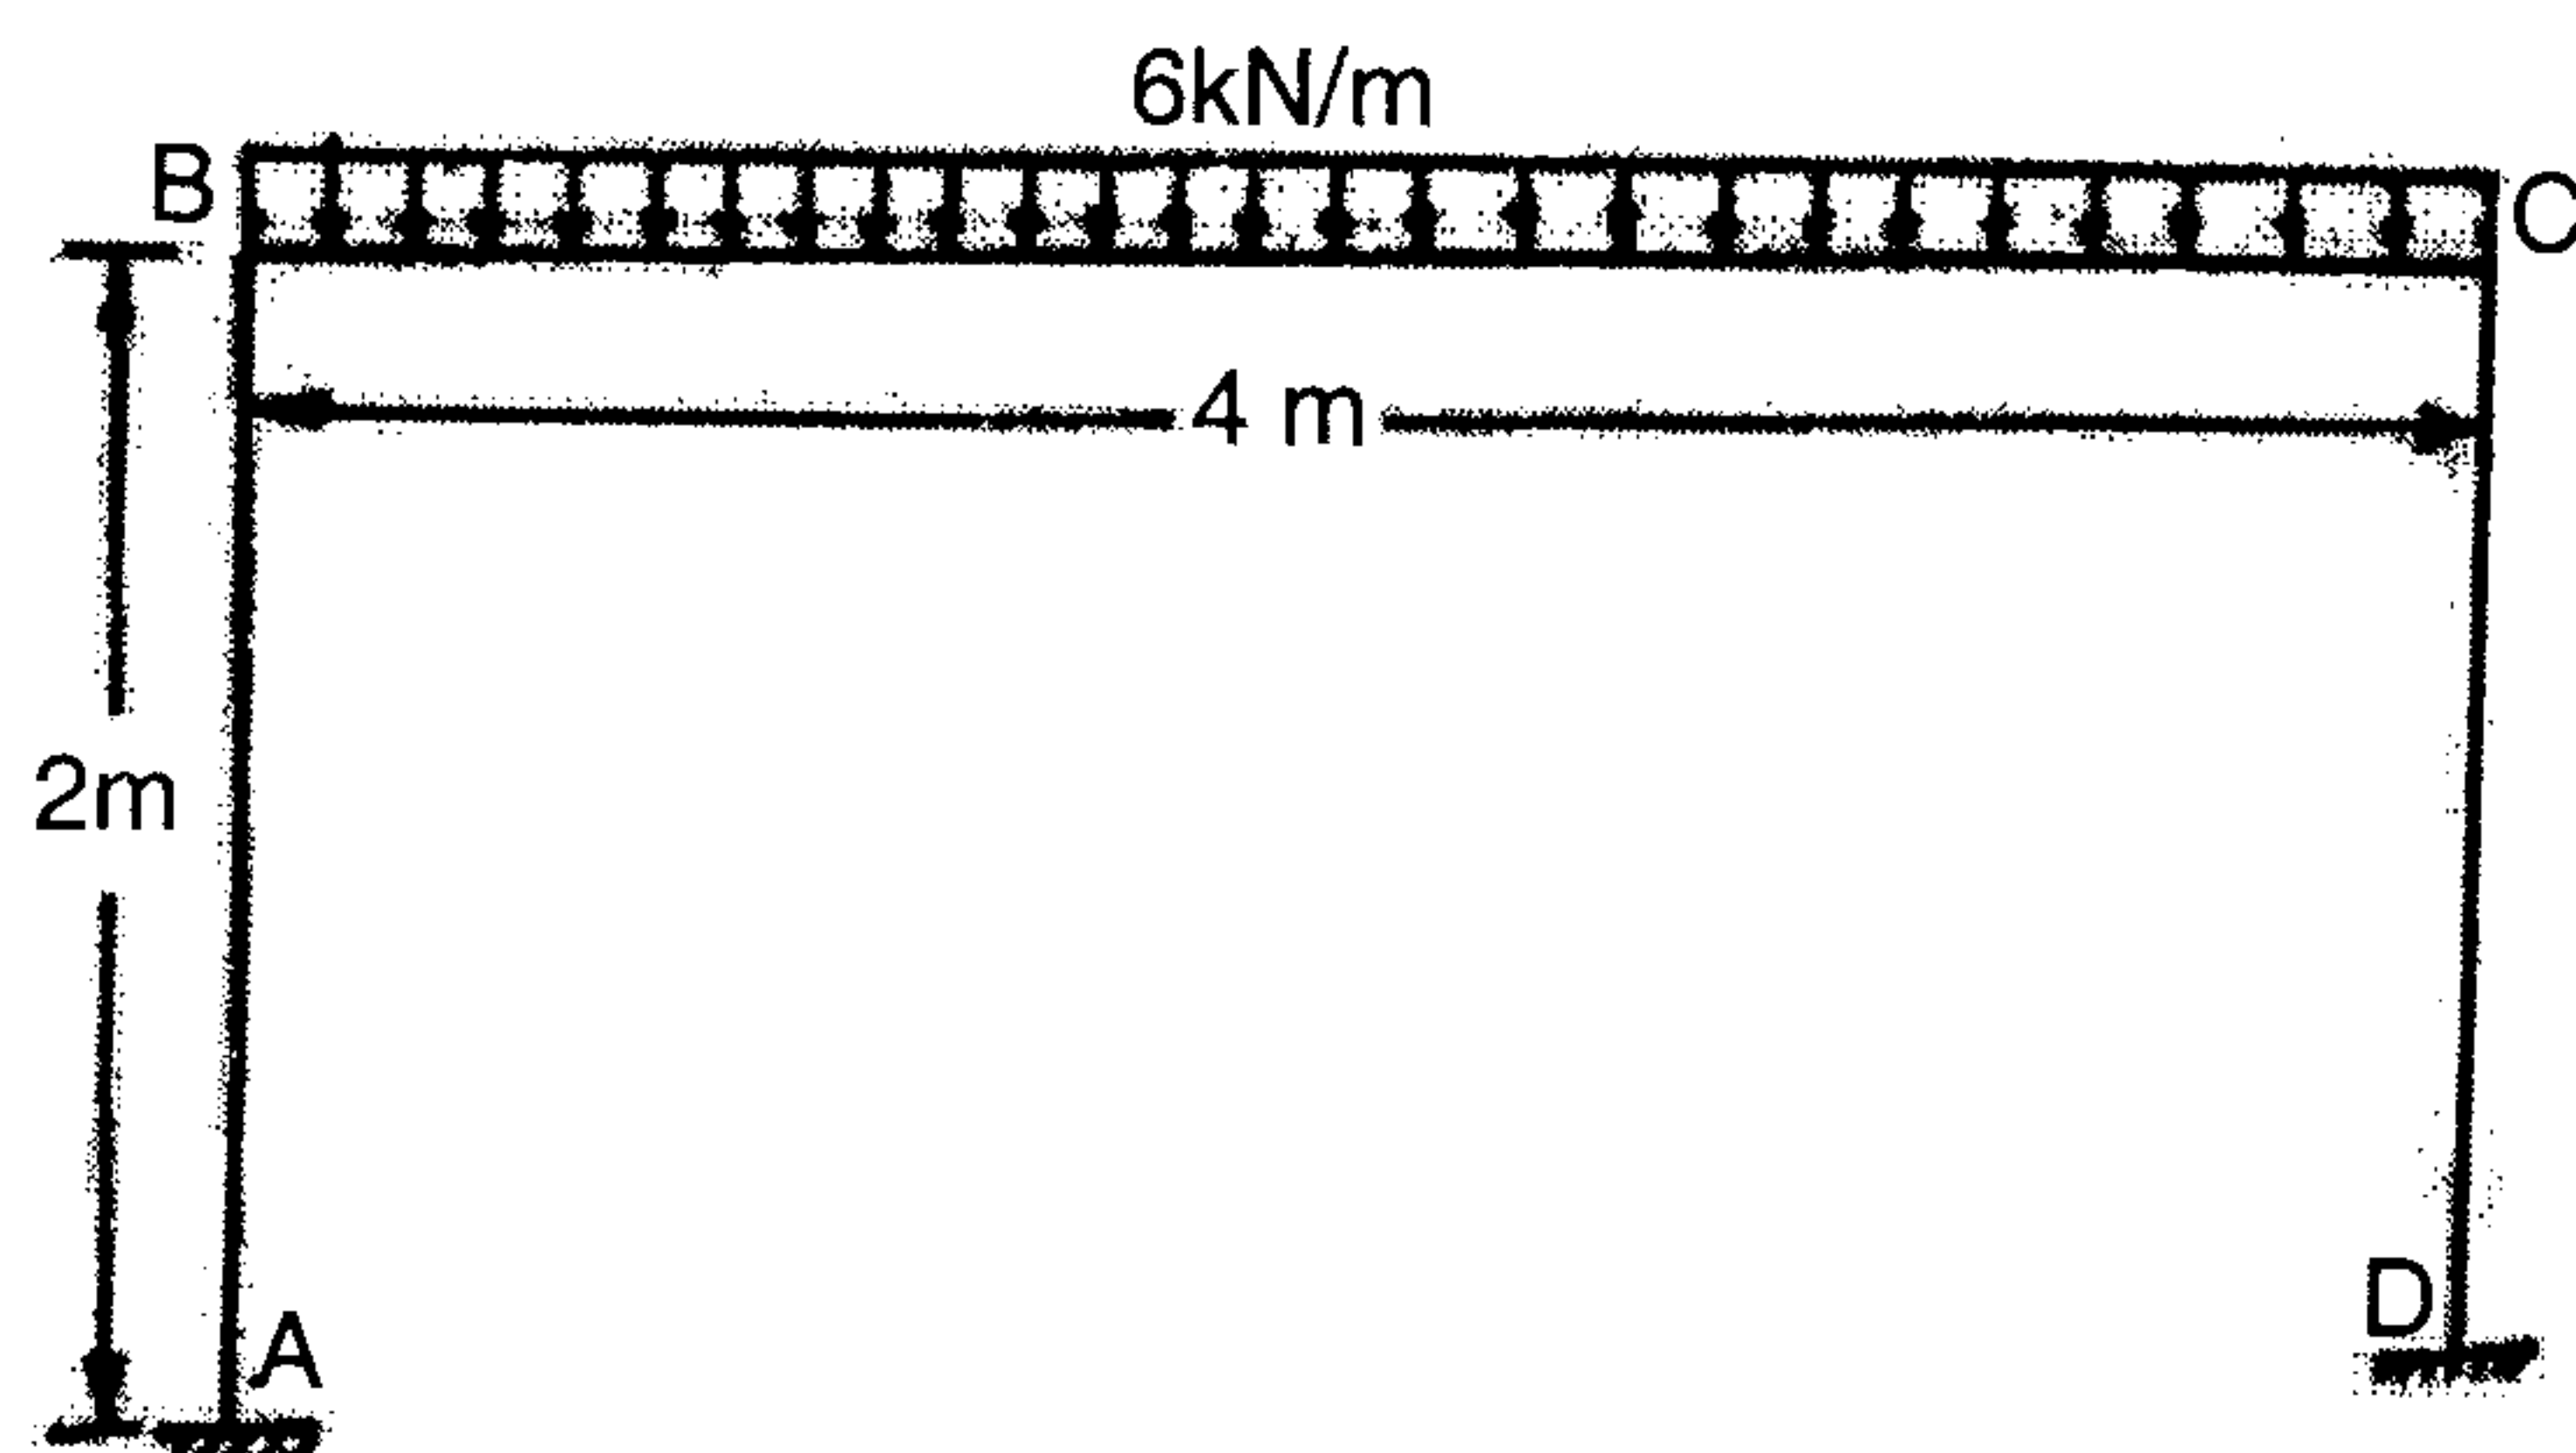

Fig. 4
10. Analyse the portal frame shown in Fig. 4 by force method. Assume  $EI = \text{constant}$ .